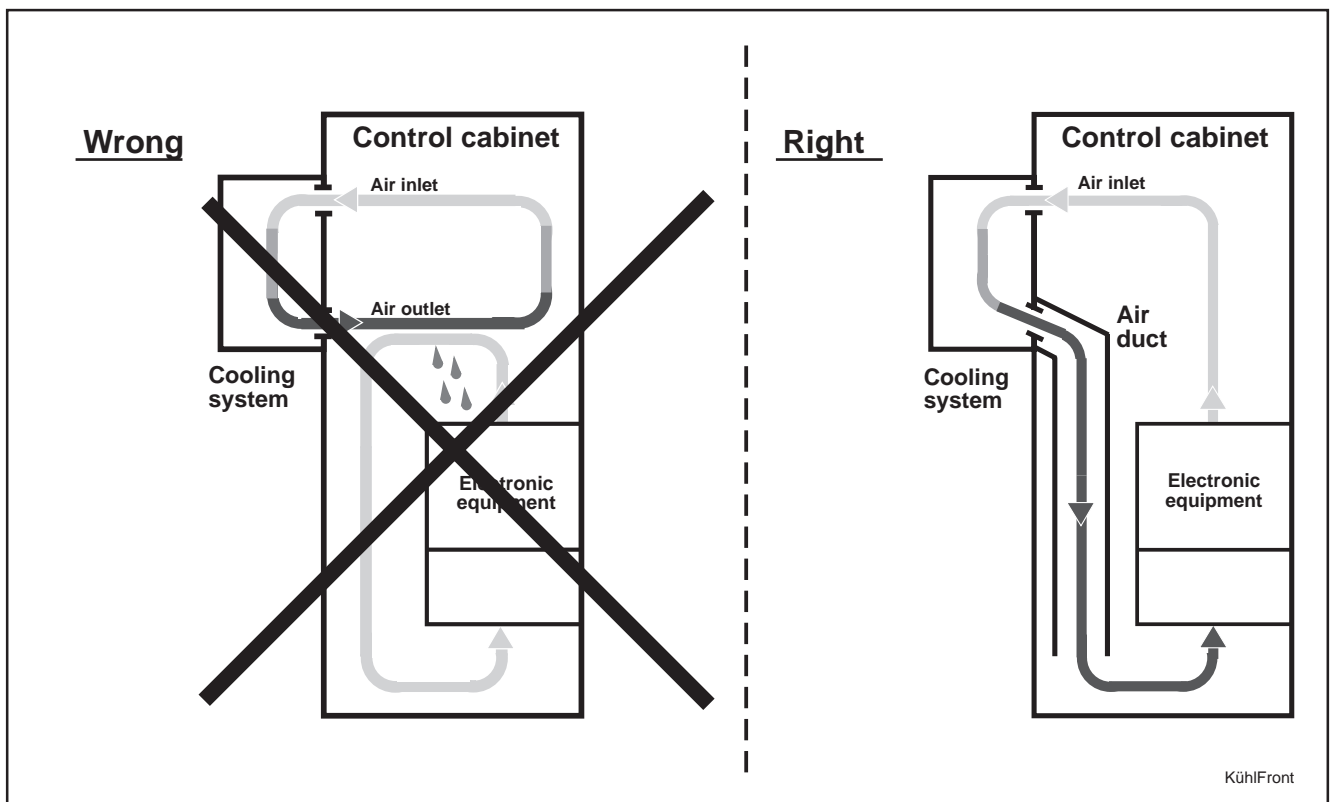

Fig. 12.2: Arrangement of cooling system on the front face of the control cabinet
- Design the control cabinet such that the fan of the cooling system will not spray condensation water which has collected while the system is shut down onto the controllers (see Fig. 12.2)!